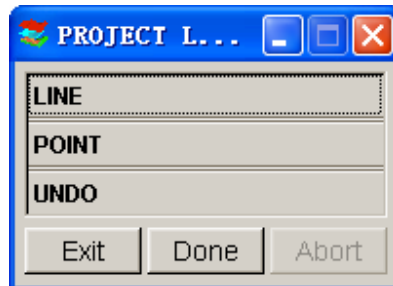

Figure 5.1.8 Project Line
- PROJECT LINE/POINT is displayed. See Figure 5.1.8.